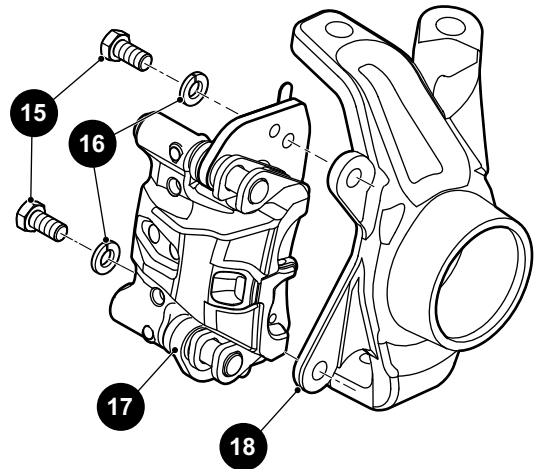

Fig. 5 Brake Caliper Removal
2. Remove the jam screw (24) and discard.
3. Remove the two bolts (15) and lock washers (16) that secure the caliper assembly (17) to the spindle (18) (Ref. Fig. 5). Swing the caliper free from the spindle and the rotor.